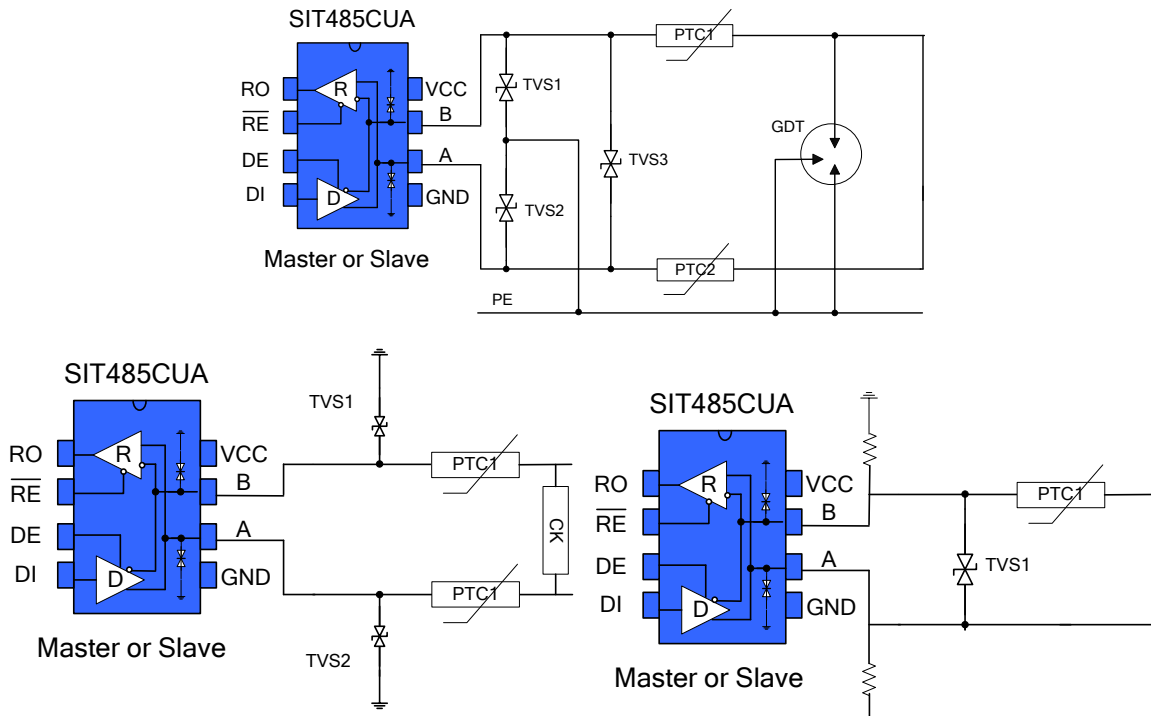

Fig13 RS485 bus ports Protection configuration
**5.3 The bus port protection:** In harsh environments, RS485 communication ports are usually done with static protection, lightning surge protection, and other additional protection, even prepared to prevent 380V electricity access by mistake. To avoid the destruction of intelligent instruments and industrial control host, figure 13 demonstrates three general kinds of RS485 bus port protection configuration.